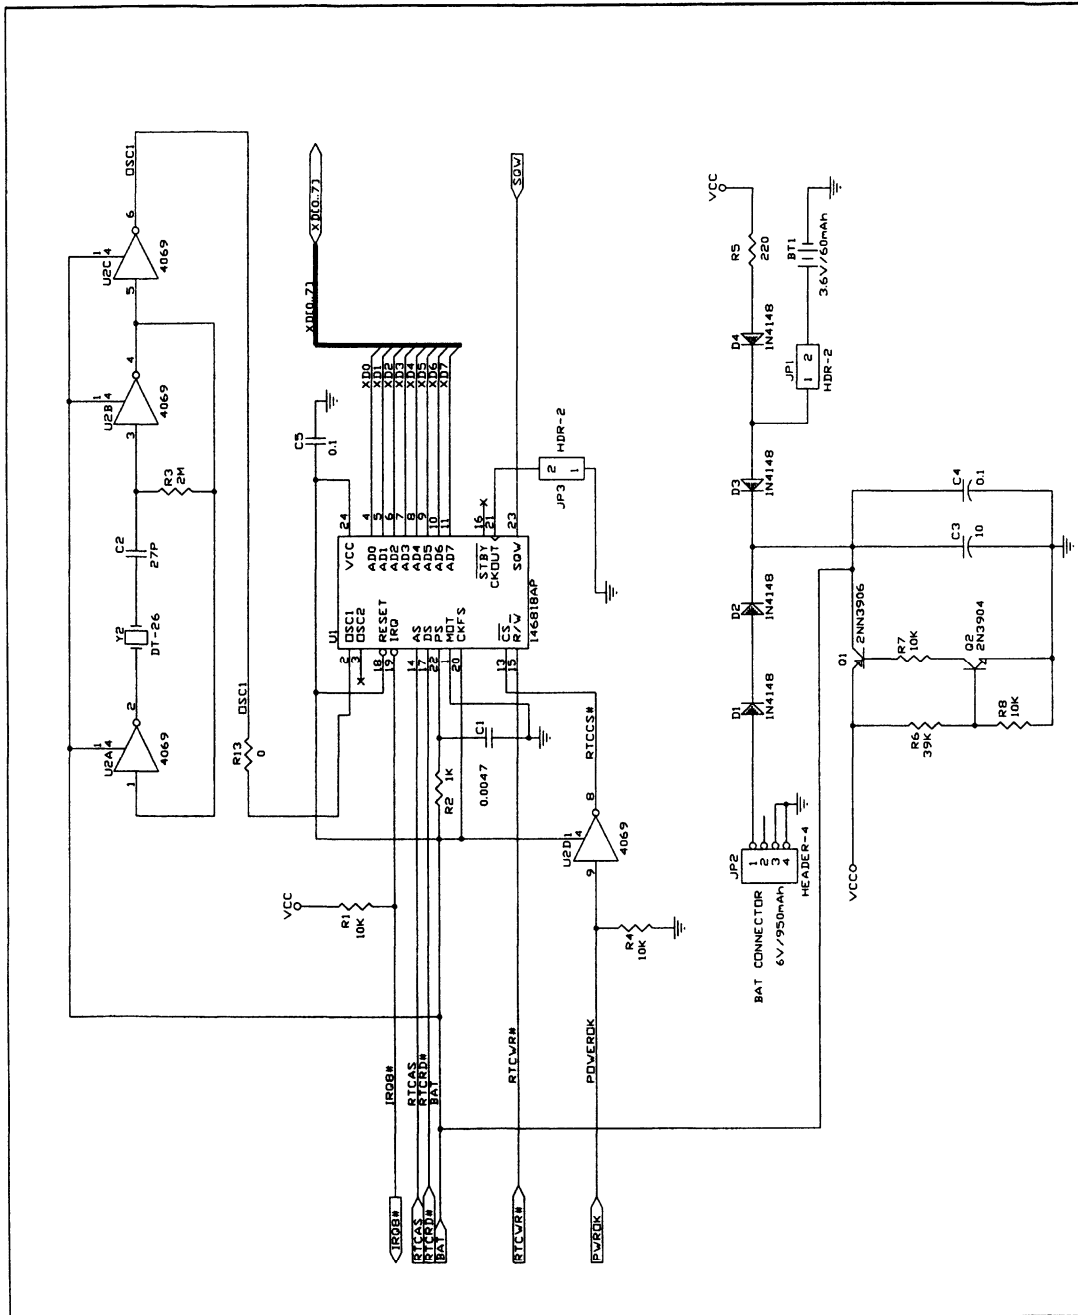

Figure 1. MC146818A ISA (PC/AT) Example
- Example MC146818A PC/AT design (Figure 1, Table 3)
**Table 3. MC146818A ISA (PC/AT) Parts List (Figures 1 and 3)**